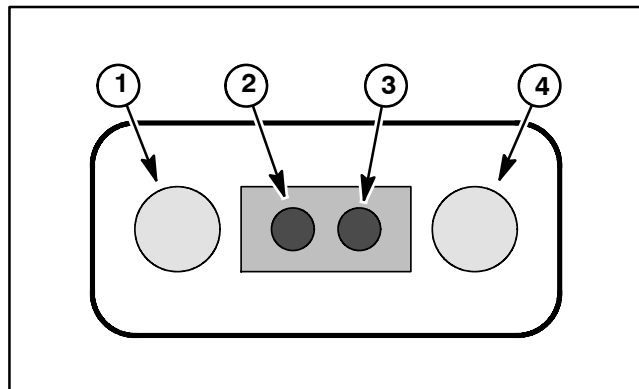

Figure 23
The sonic sensor includes a LED window that identifies sensor status during sprayer operation during operation of the Ultra Sonic Boom system (Fig. 23). To view the LED window, carefully remove cover from sonic sensor. The LED window includes four (4) LED's.